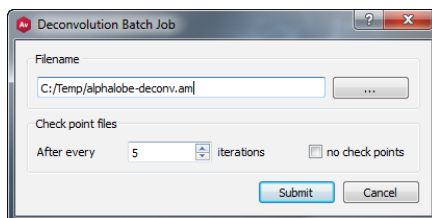

Figure 3.41: Dialog for submitting a deconvolution job.
- Press the *Setup...* button of the *Batch Job* port. A dialog as shown in Figure 3.41 pops up.